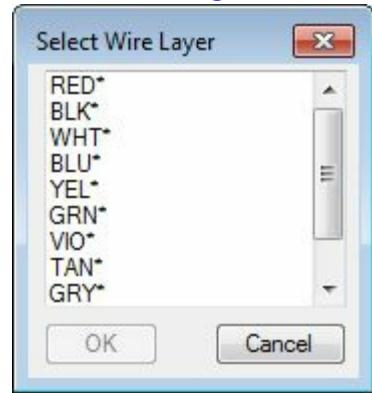

Figure-26. Select Wire Layer dialog box
- Click on the **List** button in this dialog box. The **Select Wire Layer** dialog box will be displayed; refer to Figure-26.